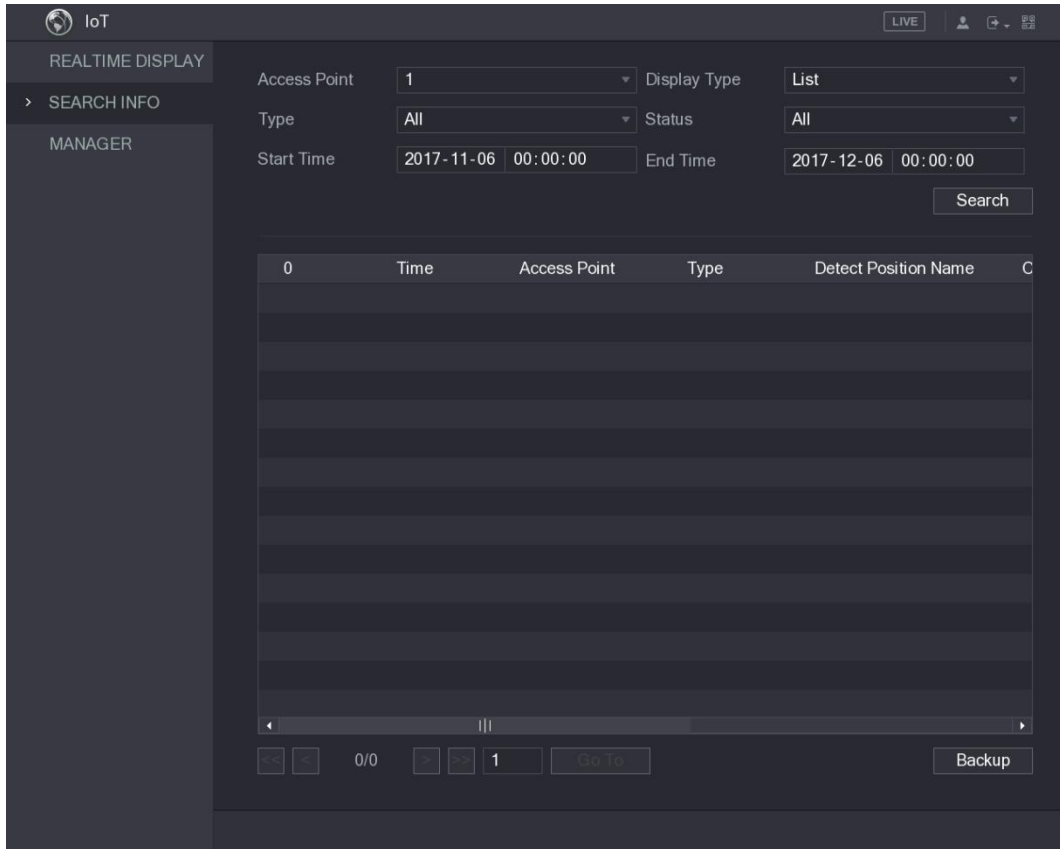

Figure 5-209
Step 1 On the main interface, select **IoT > SEARCH INFO**. See Figure 5-209.